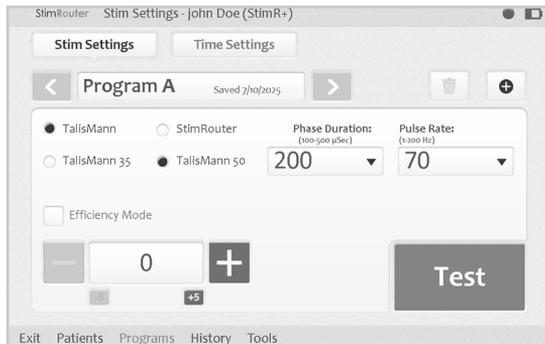

Figure 9-6: Stim Settings window
2. From the Patients List, select a patient and press “Open”. The Stim Settings window will open. See Figure 9-6. Ensure TalisMann is selected. Choose TalisMann 35 or TalisMann 50.